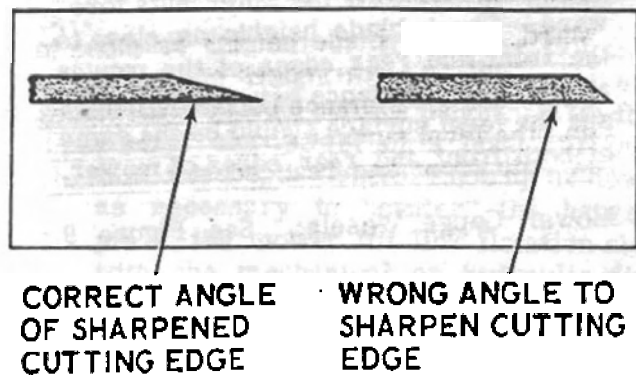

Figure 11.
9. Sharpening Blades: See Figure 11
Check the mower blades periodically for nicks or dullness. Damaged or dull blades can cause a shattered rather than clean cut and brown areas may develop. The left picture, Figure 11, illustrates the correct angle at which to resharpen the blade cutting edges. If the cutting edge is sharpened at a blunt angle as shown in the right picture, the grass may also be shattered rather than cleanly cut.